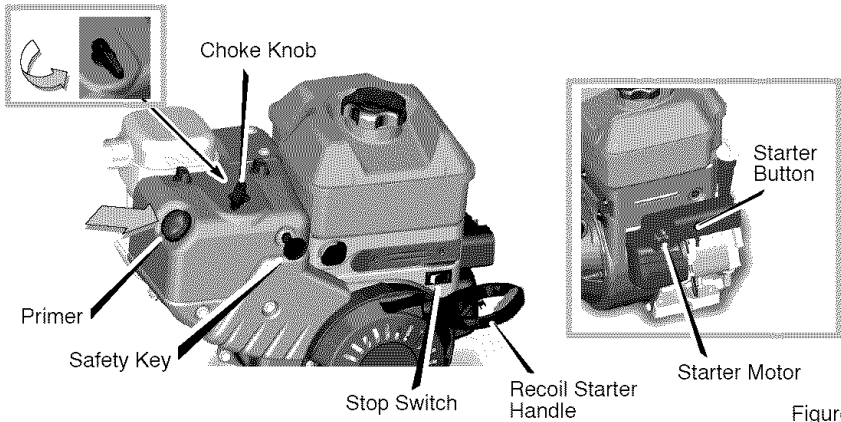

Figure 20
3. Push the **stop switch** to the ON position (see Figure 20).